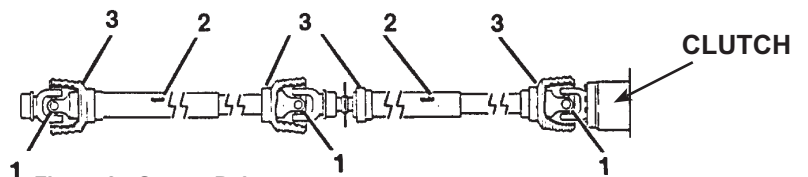

Figure 2 - Grease Points
3. The baler can be equipped or modified as required to work with tractors using either a $1 \frac{3}{8}"$ or $1 \frac{3}{4}"$ diameter PTO shaft. The tractor drawbar must be adjusted to provide the proper distance from the end of the tractor PTO shaft to the center of the hitch pin. Follow the SAE standards in Fig 2 and Table 1 for correct adjustment of the tractor drawbar.